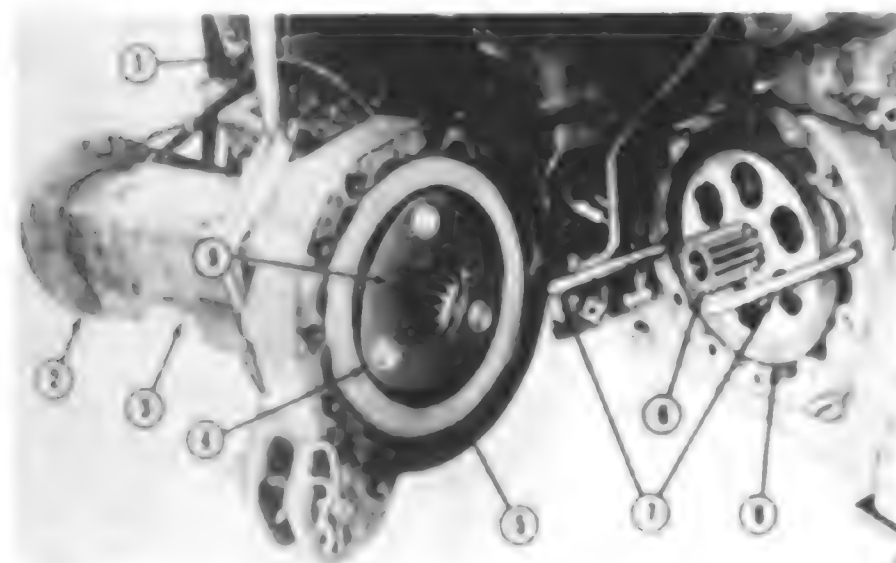
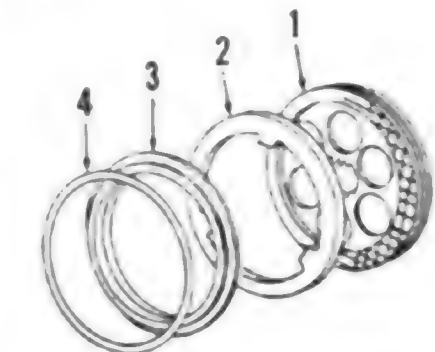
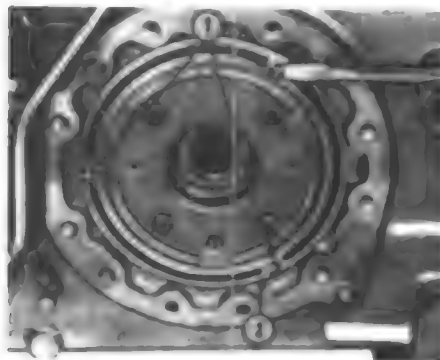

Fig. 142 - View showing final drive assembly being removed.
Fig. 154 - Exploded view of brake piston and disc.
Fig. 155 - Install screws (1) and pry brake piston (2) from housing.
covers. Disconnect wiring harness on right and left sides, fuel lines and the park brake assembly from the left fender. Disconnect variable valve flow control line and remove control lever knobs. Remove platform and fender mounting bolts from axle housings and lift housing. Remove fuel tank, platform and fenders as an assembly. When removing final drive on left side, remove the hydraulic supply line to the hitch and auxiliary valves from the multiple control valve. Disconnect 3-point hitch lower link from axle housing. Support rear frame with a floor jack and remove rear wheel. Attach a hoist to axle housing, then unbolt and remove the final drive assembly as shown in Fig. 142.
122. **R&R AND OVERHAUL.** Removal of either brake is accomplished by removing final drive as outlined in paragraph 117. Refer to Fig. 142 showing final drive removed from tractor. Remove the planetary drive shaft. Remove brake disc (1 - Fig. 154), inner brake ring (2) and brake piston (3) with "O" ring (4). Refer to Fig. 155 for removal procedure of brake piston.
When reassembling, install new "O" ring (4 - Fig. 154) on piston and lubricate "O" ring with petroleum jelly. Install piston in rear frame being careful not to damage the "O" ring.